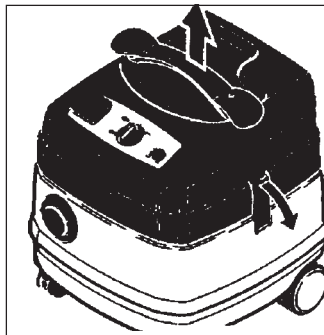

Figure 3
1. Open the retaining clamps and lift off the machine top section (Figure 3).